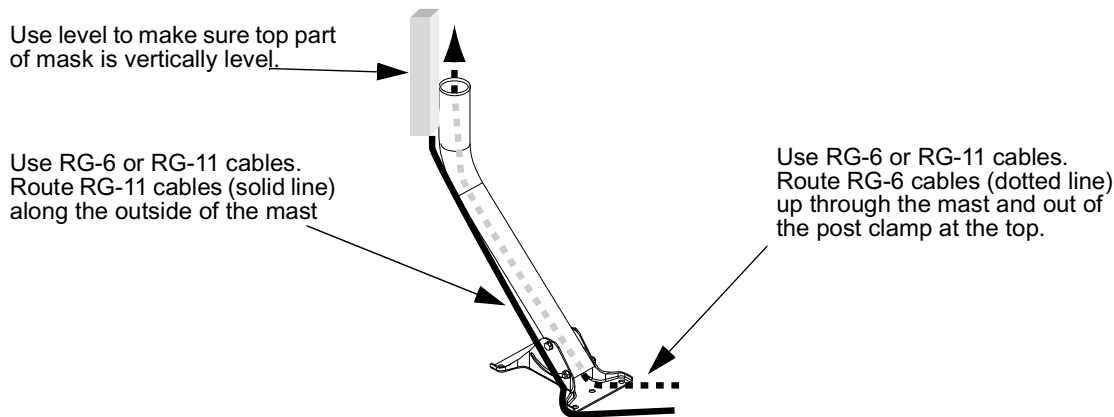

Figure 5. Mount Cable Routing
2. Align the mast so the top part of the mast is vertical (see Figure 5).
4. Route RG-6 cables up through the mast and the top of the post clamp at the top (see Figure 5). Route RG-11 cables along the outside of the mast and secure with tie wraps.